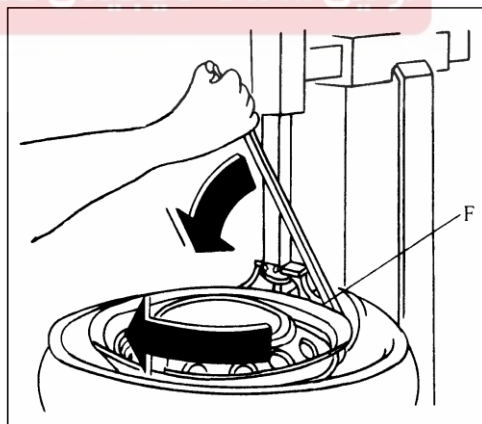

Figure 4-68 Remove Tire (II)
(5) Coat the wheel rim edge with a little lubricant. Press down and fix the lifting rod, and form a 3mm clearance between changer 7,8 and wheel rim edge.
(6) Take the end F of changer as a pivot, lift outside of tire using lever so as to place it on F end of changer, as shown in Figure 4-68.